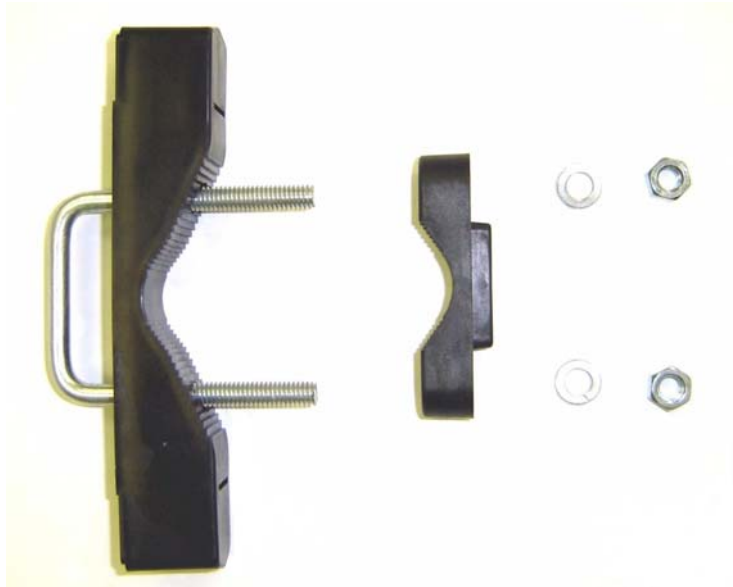

Figure 6: Pole Mount Assembly
4. Assemble the two Pole Mounting Brackets with the included U-bolts, hardware and Pole Mount Clamps. Reference Figure 6.